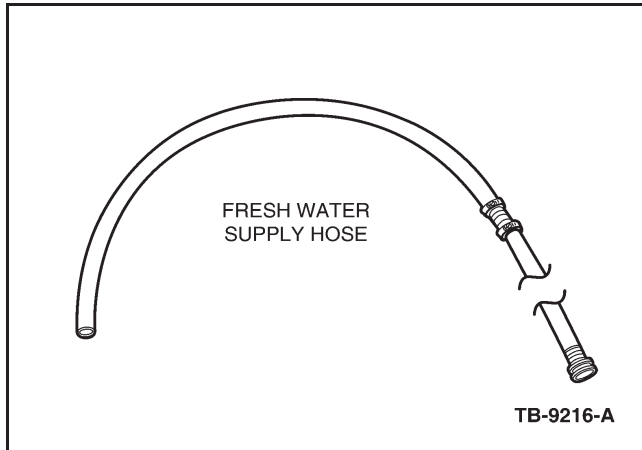

Figure 7 - Article 08-23-1
- b. Using a 3/4" coupling adapter and hose clamps, cut the garden hose to length (the hose must reach from the vehicle to a fresh water supply faucet). Attach a 2' (61 cm) length of heater hose to the garden hose to be used as the fresh water supply. (the heater hose will prevent kinking at the tight area of the engine compartment). (Figure 7)